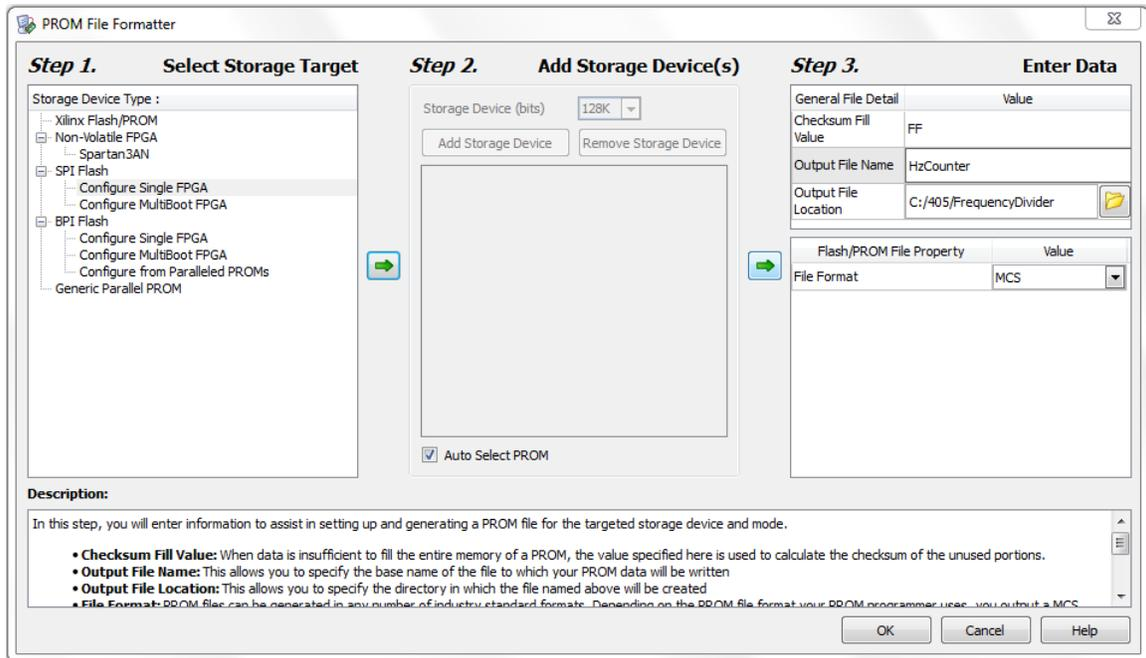

Figure 9
7. In Step 3. Enter Data, modify the **Output File Name** and choose where to store it. Keep the other options without modification (Checksum Fill Value FF and File Format MCS). The window now should look like Figure 9.